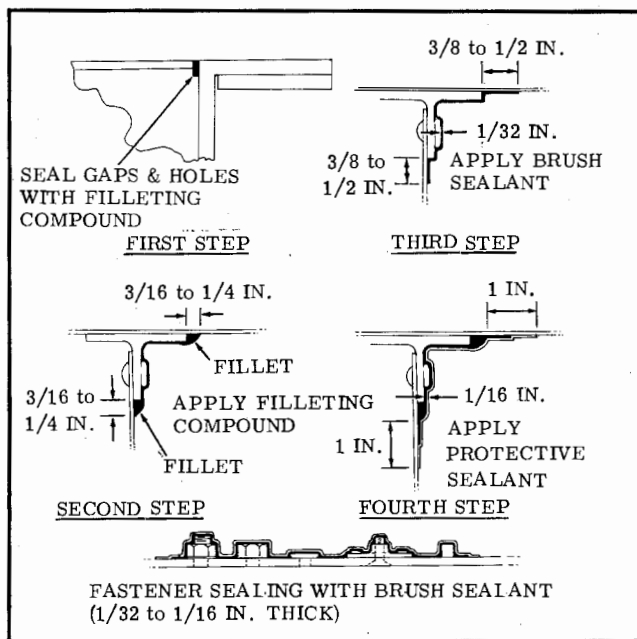

Figure 4-1. Fuel Tank Sealing
(1) Be certain that the surface to be sealed is totally clean and free from oil, grime, finger prints, etc.
(2) Refer to Figure 4-1 for typical fillet size.
(3) Join fillets laid on intersection joints to produce a continuous fillet.
(4) Seal all difficult and hard-to-reach areas first to preclude the possibility of their being overlooked or improperly sealed.
(4) Thoroughly dry clean area by flowing filtered air over immediate area until there is no possibility of solvent or fuel entrapment under adjacent sealant.
(5) Apply sealant as required for repair (See Figure 4-1.). Repaired fillets must be blended into existing fillets with a spatula or an appropriate tool.
(6) Allow all repaired sealant to cure tack-free and apply two brush coats of PR 1005-L to repair area (Refer to paragraph 4-11.).